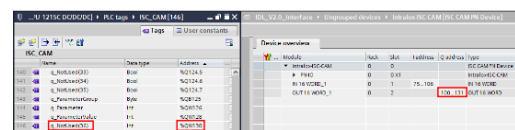

Figure 23: Last Output PLC Tag Address to Match Device
59. Starting with the updated tag (q_NotUsed(1)) Address, grab the bottom right corner with the mouse icon and drag down all the way to the last output word "q_NotUsed(36)," Figure 23.